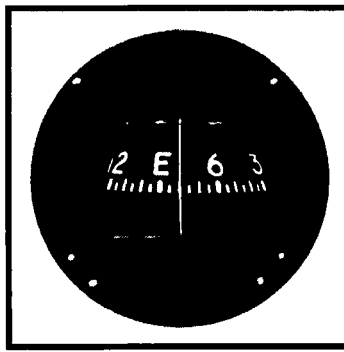

Figure 1.2
- 1.3.6 If the compass in the glider is as shown in Figure 1.2, to fly a magnetic heading of  $50^\circ$ , you should turn the glider about